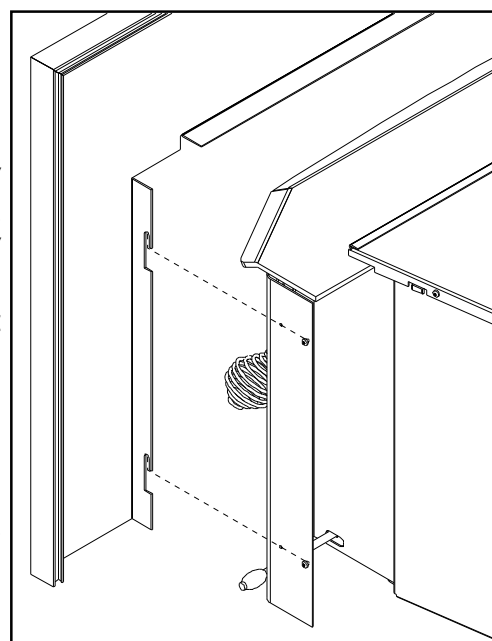

Figure 55: Installation of Panel.
There are two (2) hooks on either side of the inside of the panel. Line up the openings on the hooks with the screws on the outside of either shroud (see Figure 55). Push the surround in and push it down into place.